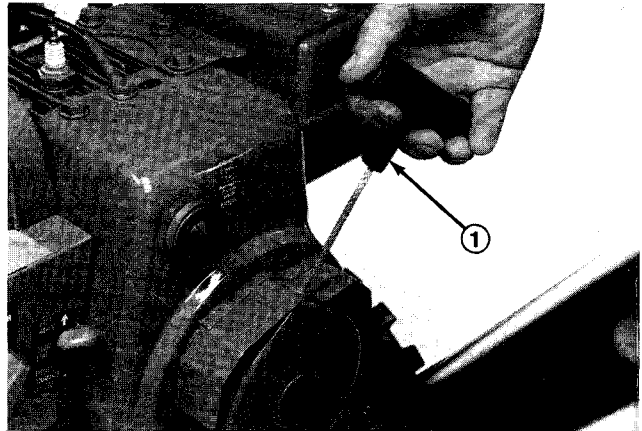

Figure 19
**Recoil Starter** (Fig. 19) — Recoil starter is on back side of engine. Pull recoil starter to start engine.
6. Grasp recoil starter handle (Fig. 19) and pull it out slowly until positive engagement results; then pull vigorously to start the engine. Keep firm grip on starter handle and return the rope slowly.